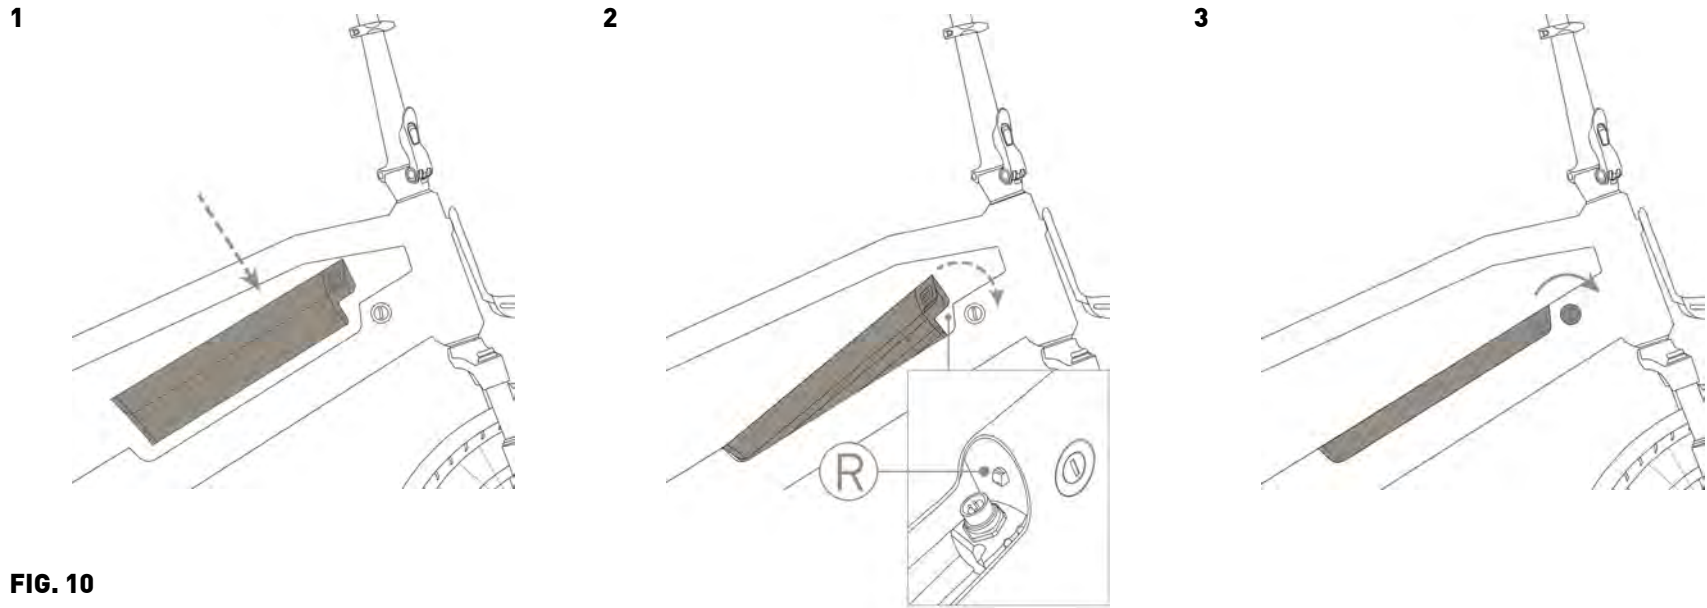

FIG. 10
2. Align the battery above the oblique pipe of the frame by matching the electrical connector (Ref. R – Figure 10);